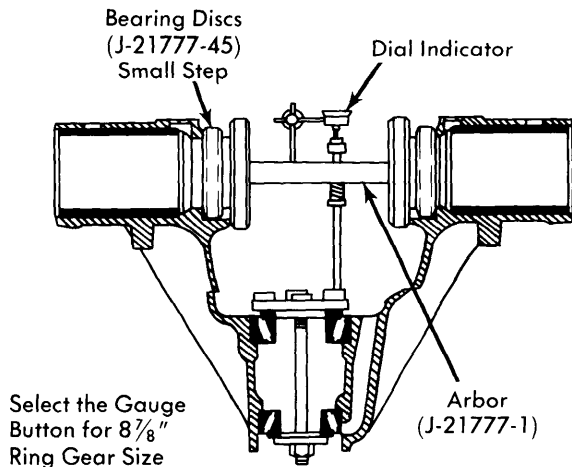

Fig. 9 Arbor & Plunger (J-21777-1) Installation
5) Install bearing discs (J-21777-45) on arbor (J-21777-1) with small step on discs facing outward. Place arbor and plunger assembly into gear case making sure bearing discs are seated properly in gear case bearing housing (refer to Fig. 9).